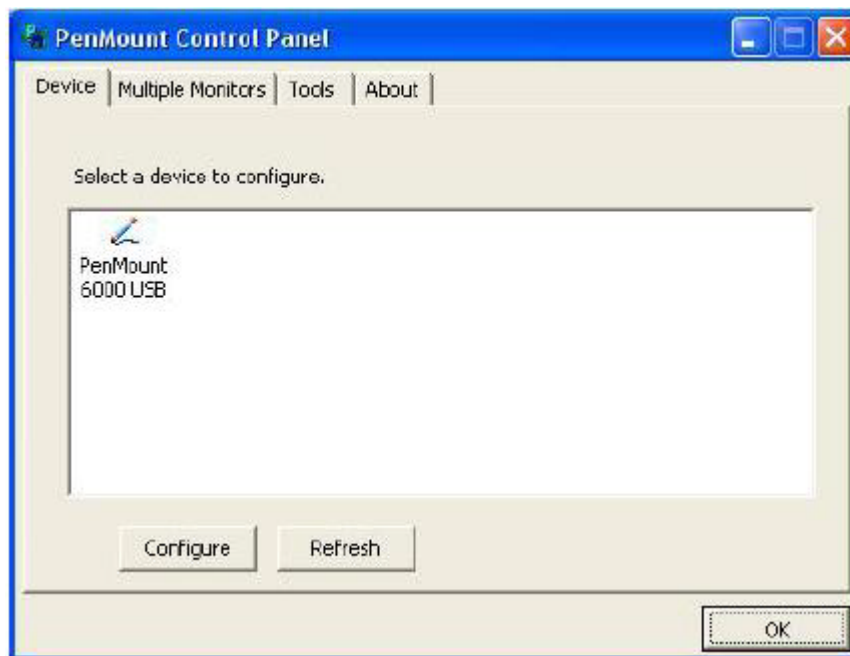

Figure 6-9: Configuration Screen
Step 6: The configuration screen in **Figure 6-9** appears.
Step 7: Double click the PenMount 6000 icon as shown in **Figure 6-9**.